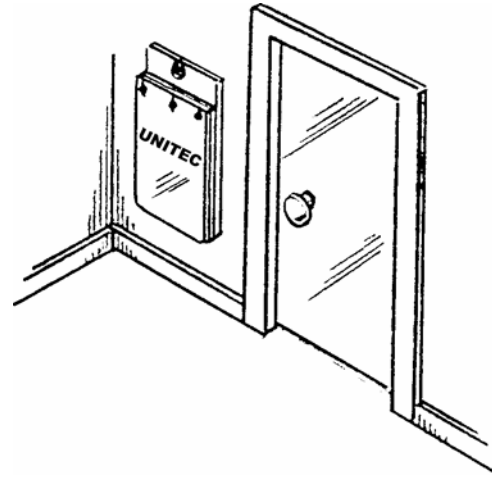

Figure 6: Print Holder Placement
1. Select the mounting location for the print holder (see Figure 6).